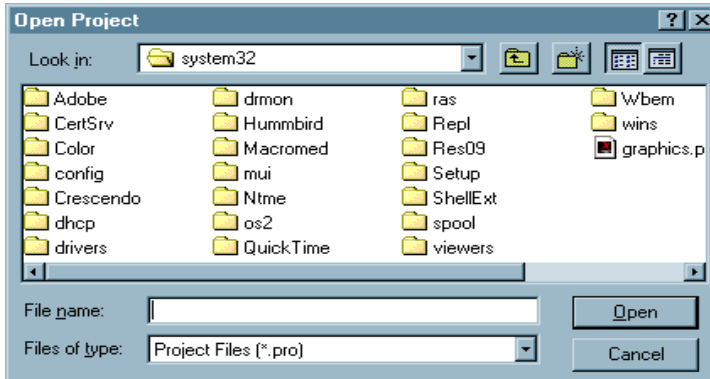

Figure 3. Open Project Dialog Box (Reference Only)
4. Select **Open Project** from the **File** menu. The **Open Project** dialog box appears. See Figure 3.